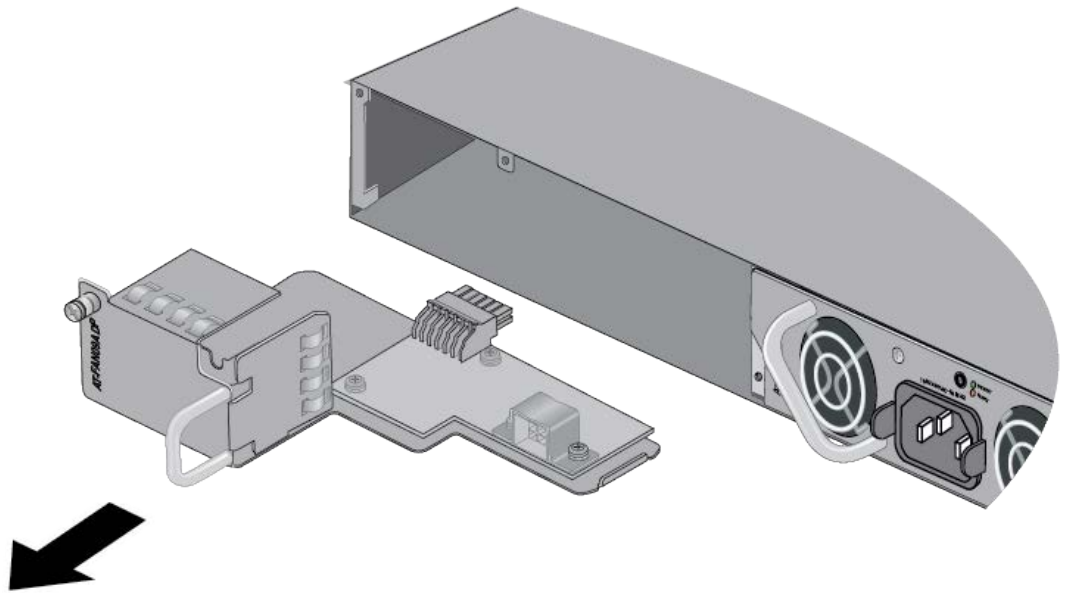

Figure 44. Removing the AT-FAN09ADP Module
6. Carefully pull the AT-FAN09ADP Module from the switch. Refer to Figure 44.